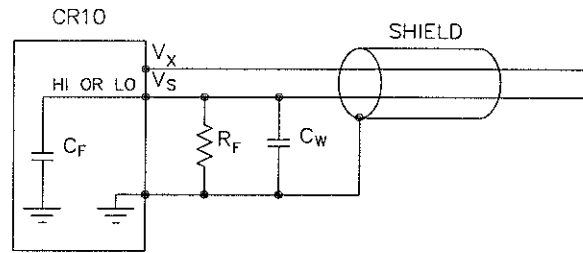

Figure 13-11 Measuring Input Settling Error With the CR10
5. Use the CR10 to measure the input settling error associated with a given configuration. For example, assume long leads are required but the lead capacitance, C_w , is unknown. Configure R_f on a length of cable similar to the measurement. Leave the sensor end open as shown in Figure 13-11 and measure the result using the same instruction parameters to be used with the sensor. The measured deviation from 0V is the input settling error.